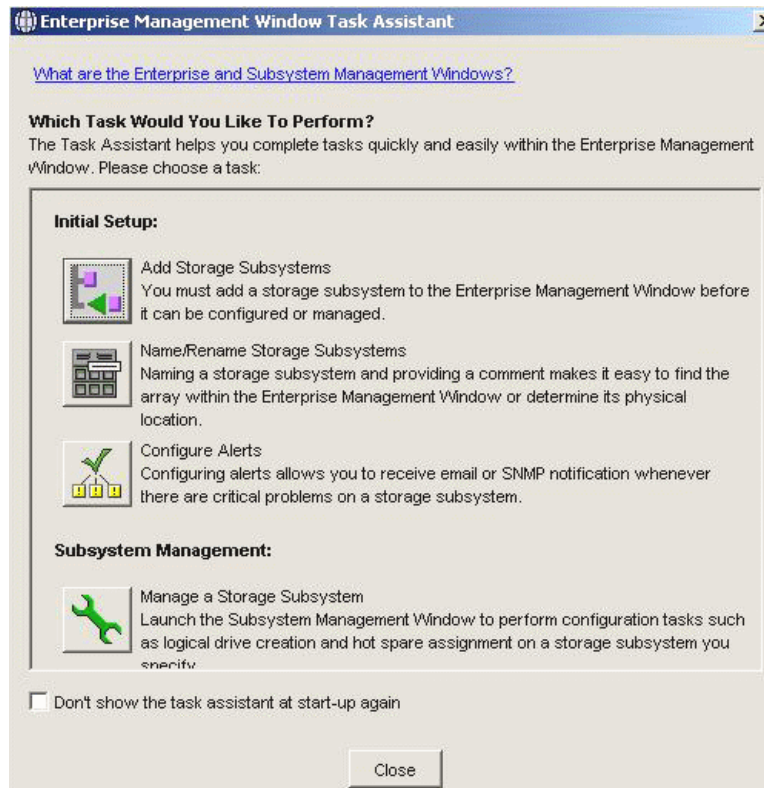

Figure 9-36 Enterprise Management Window Task Assistant
5. Click **No**. You do not want to add any more storage at this time. You will see a window similar to Figure 9-36.